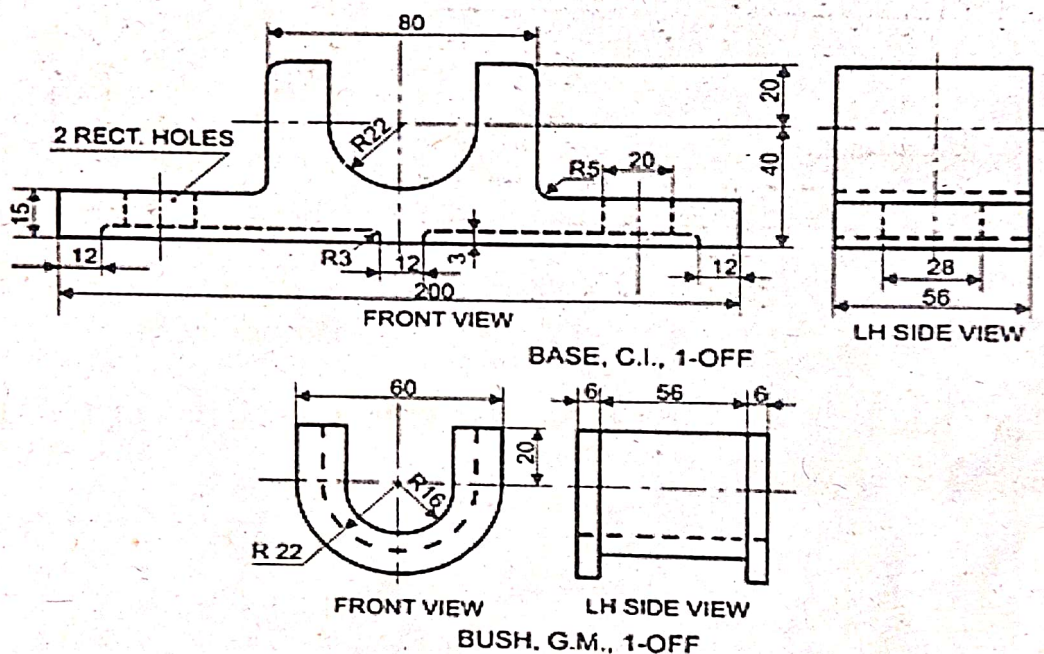

Fig. 1 OPEN BEARING (DETAILS)
11. Figure 1, shows the orthographic views of the details of an 'Open Bearing'. Assemble these parts correctly and then draw to scale 1:1 the following views: